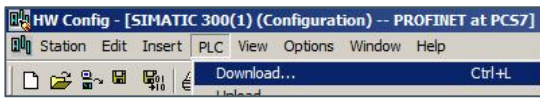

Figure 37: Searching for the target CPU unit
- 1) Click **PLC > Download...** (see: Figure 37: Searching for the target CPU unit).